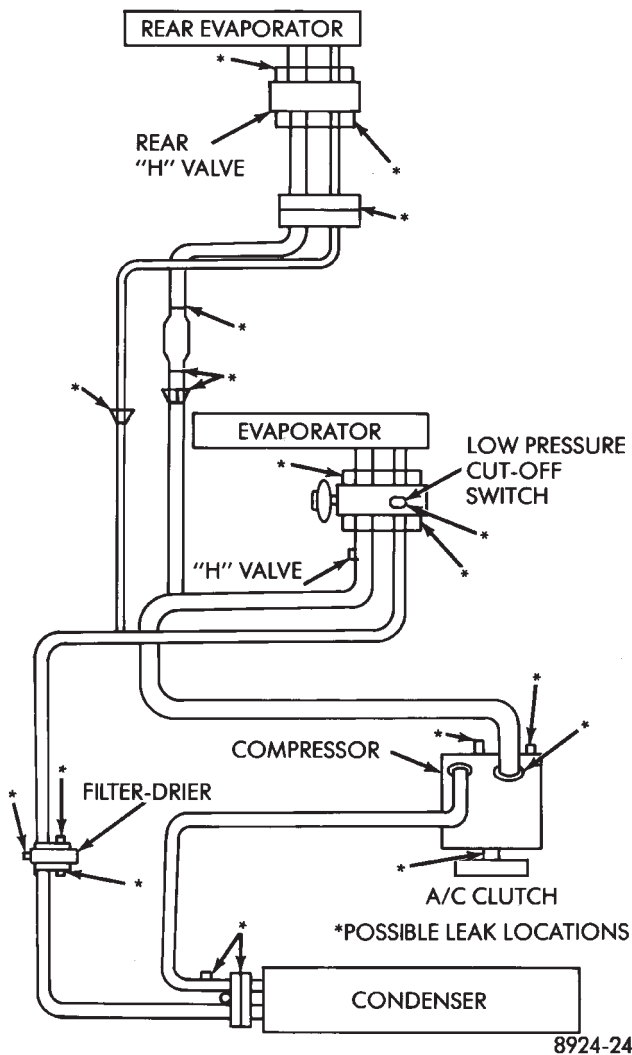

Fig. 6 Testing for A/C Leaks—Typical Front/Rear A/C System
(1) Using the refrigerant level sight glass, determine if there is any (R-12) refrigerant in the system.
(2) Position the vehicle in a wind free work area. This will aid in detecting small leaks.
(3) Bring the refrigerant system up to operating temperature and pressure. This is done by allowing the engine to run for five minutes.
(4) With the engine not running, use an Electronic Leak Detector (or equivalent) and search for leaks. Fittings, lines, or components that appear to be oily usually will indicate a refrigerant leak. To inspect the evaporator core for leaks, it is possible to insert the leak detector probe into the recirculating air door opening (Fig. 6).